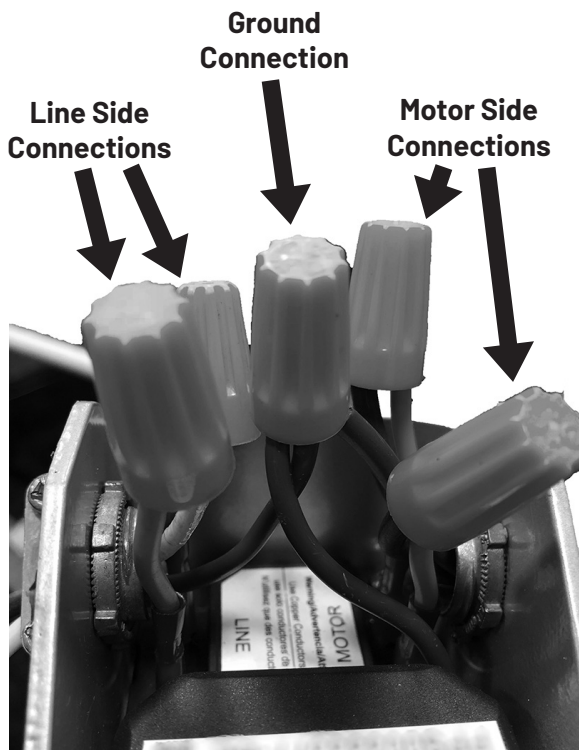

Figure 1: Device Wiring
2. Connect green ground wires from both the LINE and MOTOR wiring to the green ground wire in the device with a wire nut of size and type specified by approved local or national codes. See Figure 1 and Table 1.
3. Using the included wires and wire nuts of size and type specified by approved local or NEC national codes, connect power supply leads to switch terminals marked LINE. See Figure 1 and Table 1.
4. Using the included wires and wire nuts of size and type specified by approved local or national codes, connect motor leads to switch terminals marked MOTOR. See Figure 1 and Table 1.